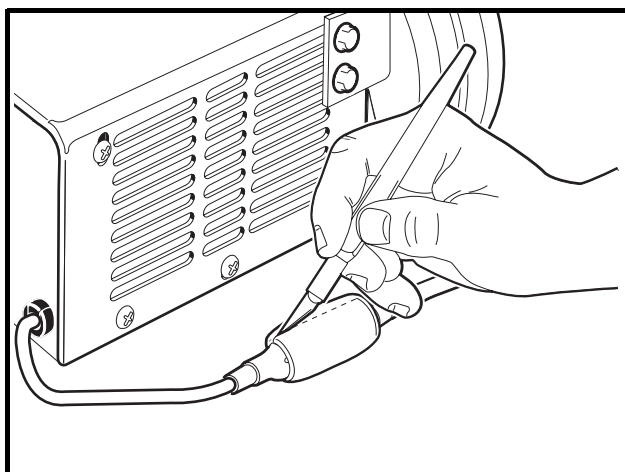

Figure 6-14 Heatshrink Removal
3. Remove the heatshrink from the AC cord connection between the short AC cord and the retractable cord reel by gently cutting the heatshrink tubing (**Figure 6-14, Page 6-19**).